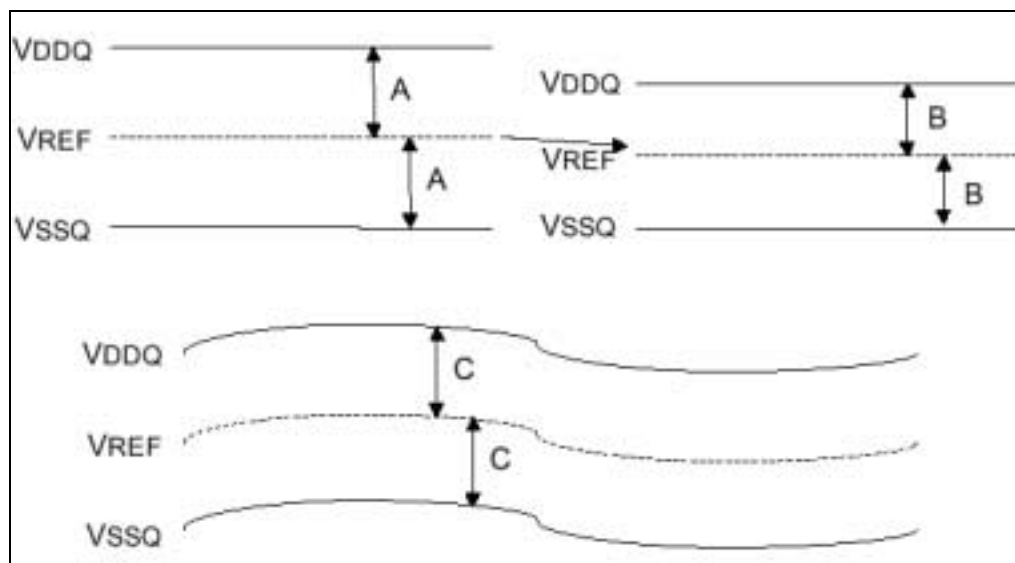

Figure 2 Vref tracking of VDD
- Vref must track the midpoint of the signal voltage swing (generally $V_{DDQ}/2$) within 3% over all valid voltage, temperature, and noise level conditions. See Figure 2 below.